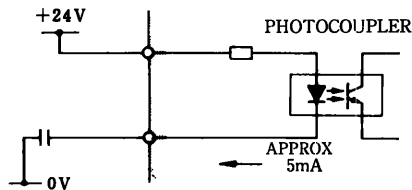

Fig 6.4 Configuration of I/O Circuit
There are three input signals: Overtravel (OT), external positioning (\*EXP), zero-point return decel limit (DEC). Construct the input circuit using 24V power supply (Fig. 6.4). 24V power supply is provided with Motionpack.